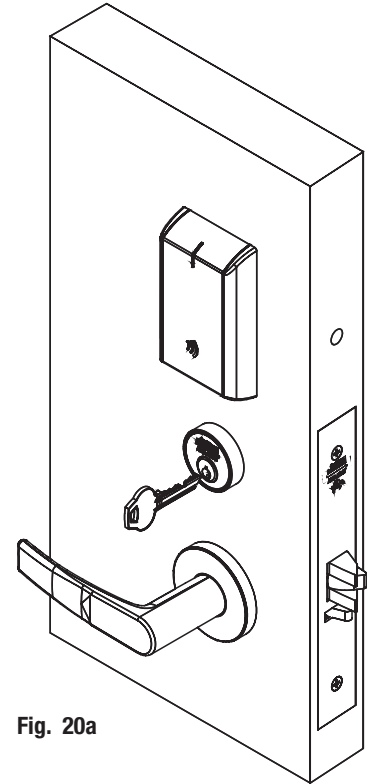

Fig. 20a
- Insert key into cylinder and rotate (Fig. 20a).